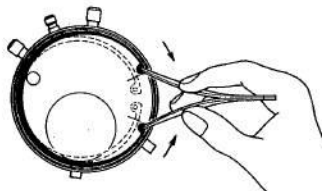

Fig. 3
- e. The snap ring of (M) button is removed to detach the push-button.
- f. The retaining ring is removed upward by pressing the two points inward with a tweezers. (Fig. 3)